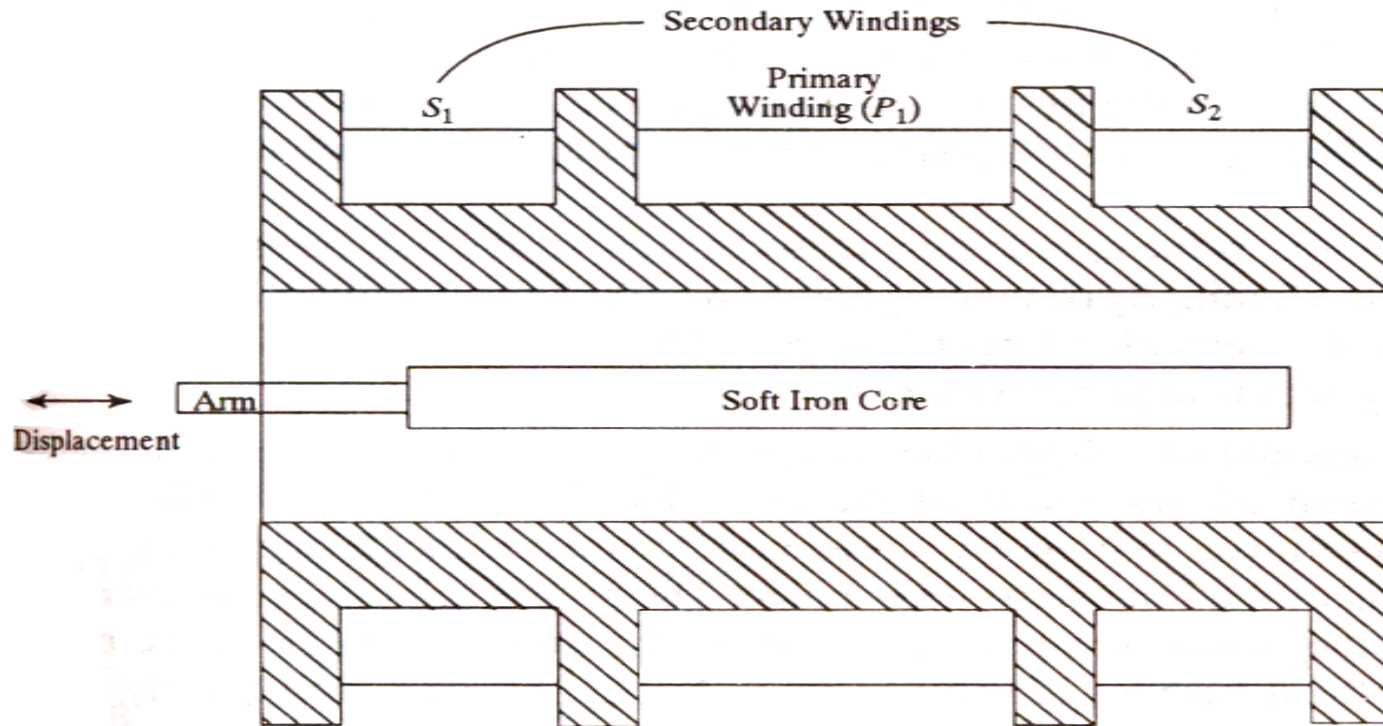

Fig. 13.19 Construction of a Linear Variable Differential Transducer (LVDT)
- The transformer consists of a single primary winding P1 and two secondary windings S1 and S2 wound on a hollow cylindrical former (as shown in fig. 13.19)